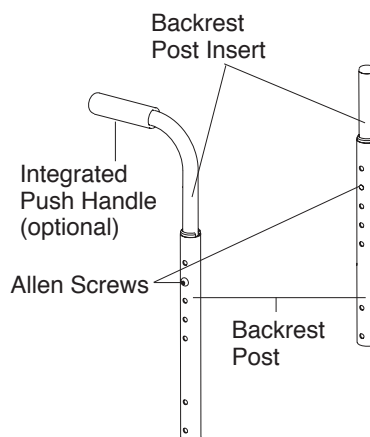

Figure 23
2. On both sides of the chair, remove the Allen Screw that secures the backrest post inserts inside the backrest post. See Figure 23.